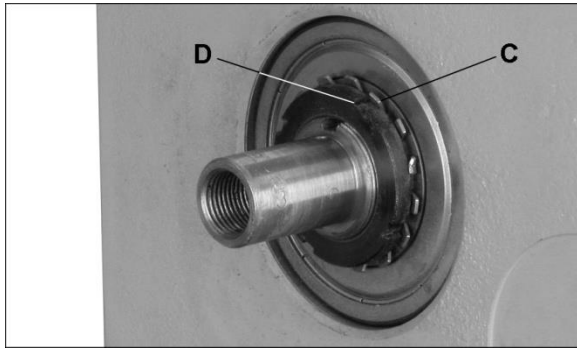

Figure 32
The spindle bearing has been set at the factory for general turning applications. There should be no "end play" or looseness along the spindle's axis. If any looseness should ever occur, it may be rectified by carefully tightening the bearing lock nut on the spindle, as follows. (See Figure 32).
2. Use a screwdriver to carefully bend back any tabs on the tabbed lock washer (C, Figure 32) that interfere with the insets on the bearing lock nut (D).
3. Place the end of a flat head screwdriver down against one of the insets of the bearing lock nut (D).
4. Tap the handle of the screwdriver with a mallet so that it turns the bearing lock nut (D) tighter in a clockwise direction. Rotate the bearing lock nut only about 1/16" at a time.
2. Loosen lock handle (A) and lift up handle (B) to raise motor.
3. Tighten lock handle (A) to hold motor in raised position. Slip belt off pulleys.
4. Loosen two set screws on handwheel (F) with a hex key, and pull handwheel off headstock spindle.
5. Loosen and remove bearing lock nut and tabbed lock washer (C/D, Figure 32).
9. Slide spindle back into place, install tabbed lock washer, and bearing lock nut (C/D, Figure 32). Check for any spindle play at this point (See *section 9.13, "Checking Spindle Play"*).